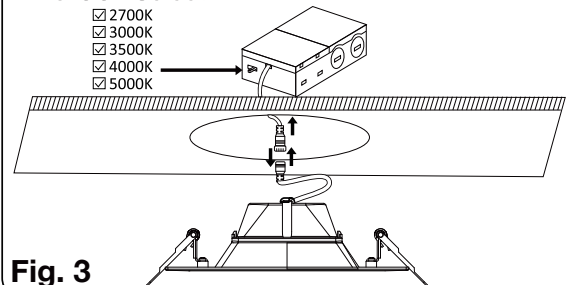

Fig. 3
3. Insert J-Box through the mounting hole and secure it, connect the fixture power cable to the J-Box. Select lamp color desired with the CCT switch, see Fig. 3